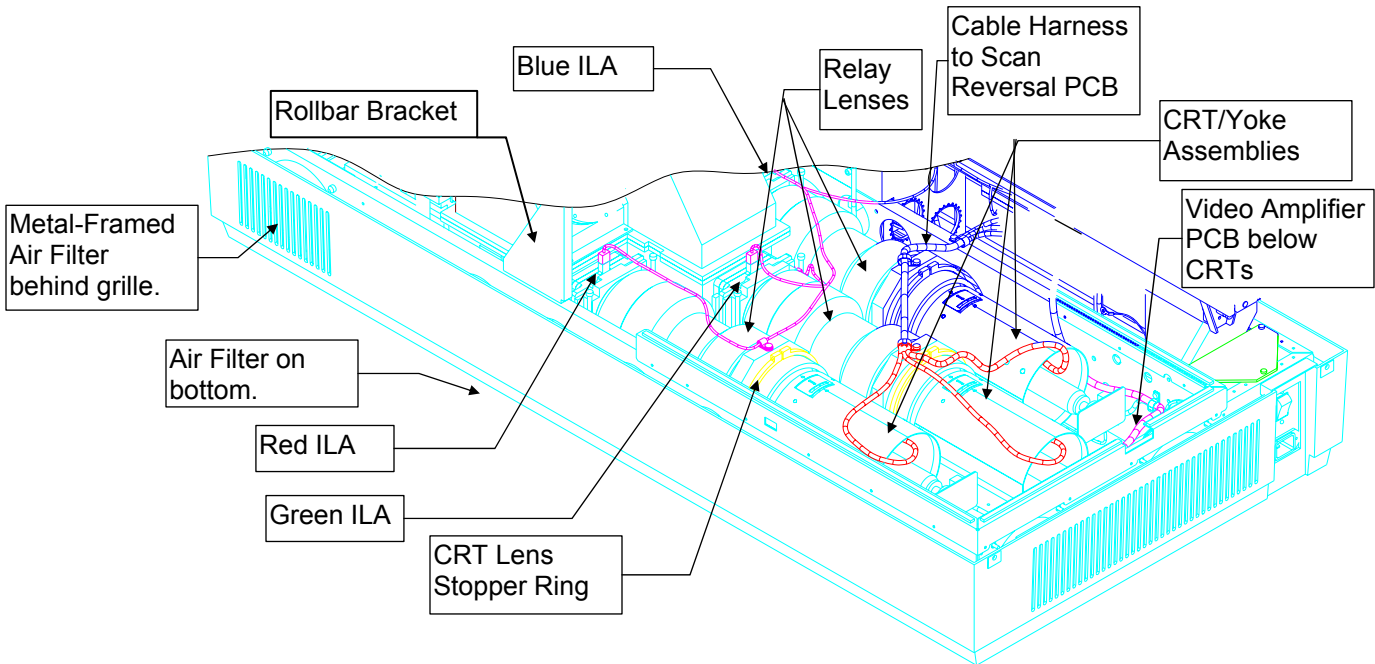

Figure 4-11. View of CRTs, Relay lenses and ILA[®] Assemblies.
Three CRT/Yoke Assemblies are located in the CRT Assembly area below the card cage. To remove a CRT/Yoke Assembly (refer to Figure 4-11):
3. Disconnect the connector on the top of the appropriate ILA[®] assembly. (*Figure 4-11*).
To remove a Relay Lens (*refer to Figure 4-11*):
4. Loosen the CRT Lens Stopper Ring (the thin collar just in front of the CRT Holder knurled ring-Figure 4-11) and slide it off the back of the Relay Lens.